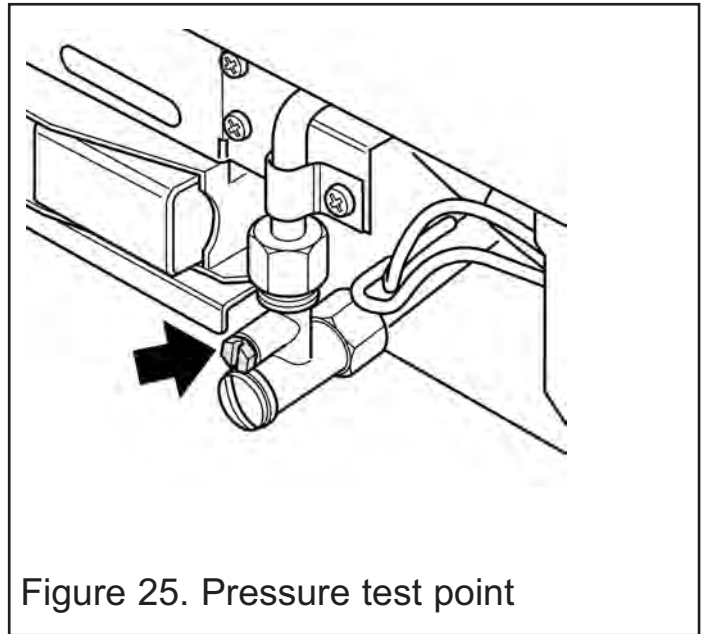

Figure 25. Pressure test point
1. Ensure that the appliance is switched OFF, then fit a pressure gauge at the test point (See figure 25).